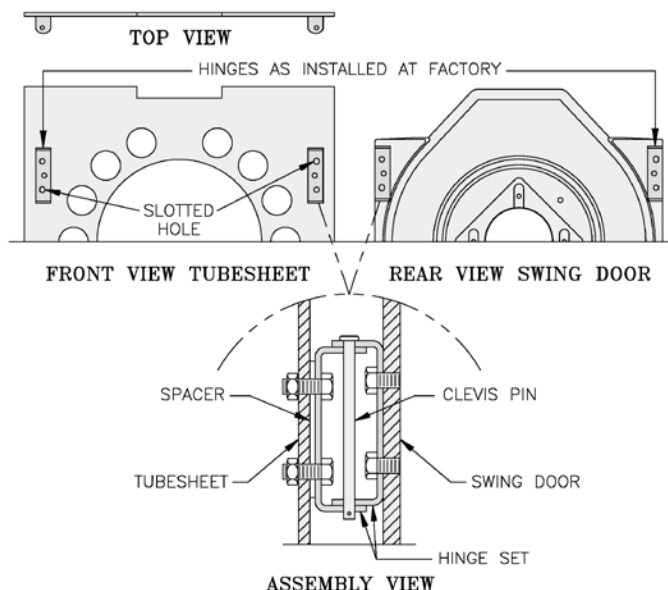

Figure 3: Hinge Installation & Assembly, LE Boiler
- Attach 2 hinge brackets & spacers to Tubesheet and 2 hinge brackets to Door on right side of boiler. 3 Holes in each Hinge Bracket must line up with 3 matching holes in Spacer, Tubesheet or Door. See Figure 3. Tighten hex nuts, bolts and screws by hand only.
- Replace door assembly. Hinge brackets attached to door must rest on top of hinge brackets attached to tubesheet. See Figure 3. Slide hinge pins through hinges from top and install cotter pins. Close door and install 5/16" - 18 x 3" long hex head cap screws through flatwashers and left side of door and into tapped holes in tubesheet. Tighten all hex nuts, bolts and screws. When door is installed properly, it is parallel to Tubesheet when viewed from top and sides.